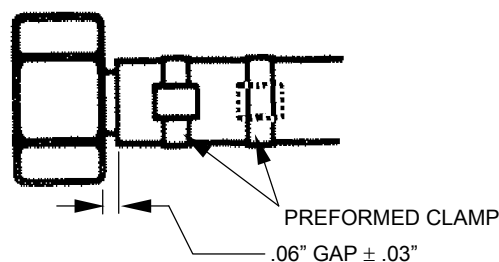

Figure 3-4. Barbed Hose Connection for Pneumofathometer Hose
b. Installation of Barb Fittings (see Figure 3-4):